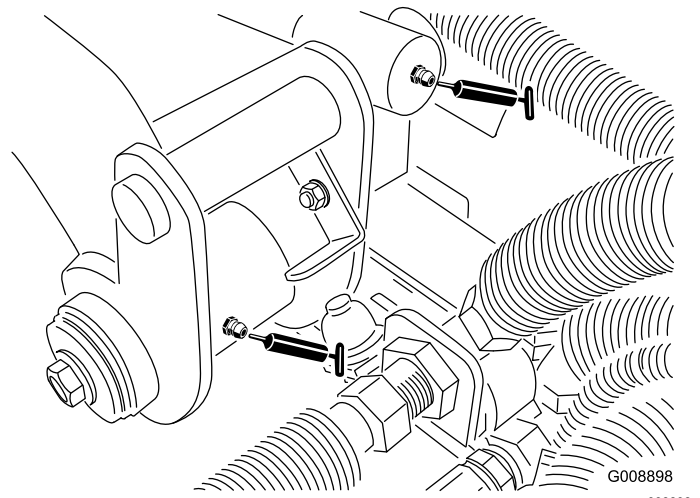

Figure 63
- Rear lift arm pivot and lift cylinder (2 fittings—Figure 63)